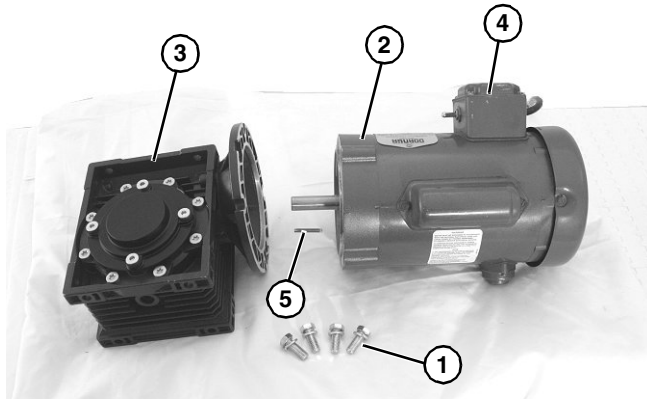

Figure 15
6. Remove four screws (**Figure 15, item 1**). Detach motor (**Figure 15, item 2**) from gear reducer (**Figure 15, item 3**), making note of position of switch (**Figure 15, item 4**) for reassembly. Retain motor output shaft key (**Figure 15, item 5**).
10. With key (**Figure 15, item 5**) in keyway, slide motor (**Figure 15, item 2**) and gear reducer (**Figure 15, item 3**) together, noting where position of switch (**Figure 15, item 4**) will be during installation on conveyor.
11. Install screws (**Figure 15, item 1**) and tighten to 60 in-lb (7 Nm).